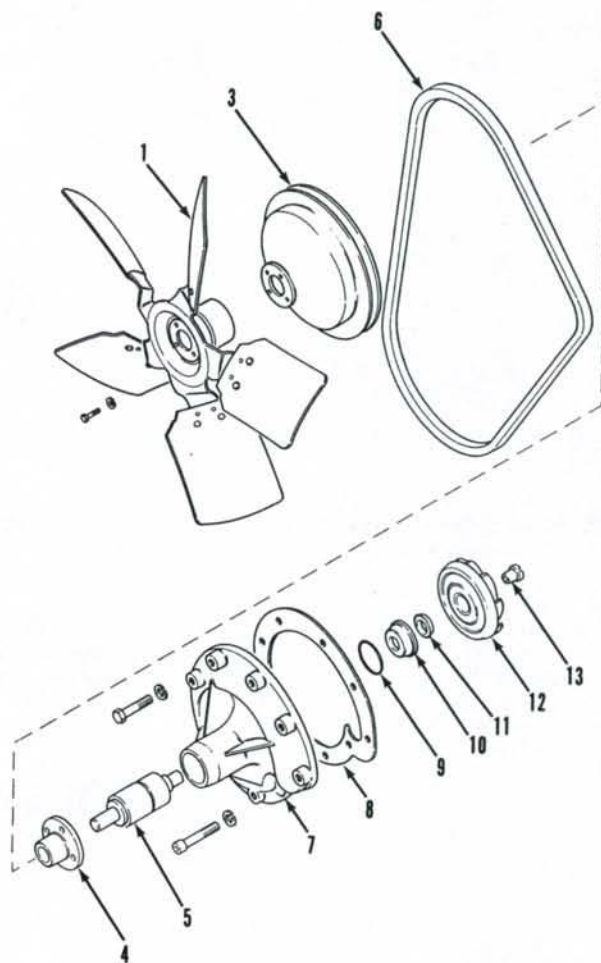
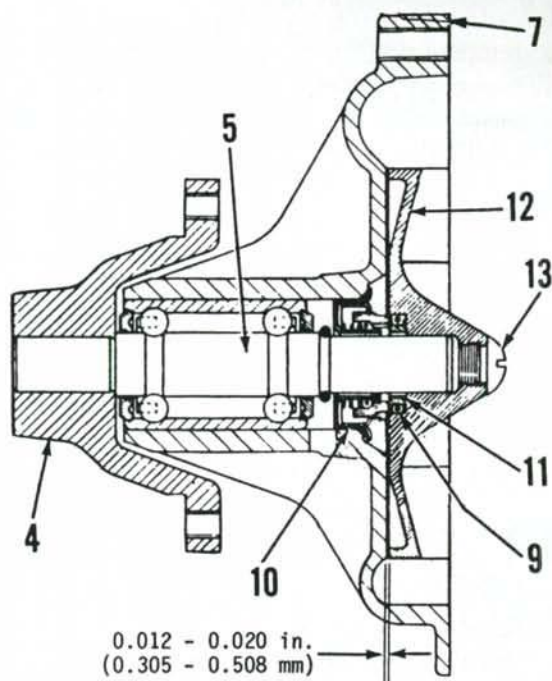

Fig. 61—Exploded view of typical water pump assembly. The five blade fan is standard. A six blade fan is used on models equipped with air conditioning.
Fig. 62—Sectional view of typical water pump, showing correct dimension for installation of impeller.
Disassemble the pump as follows: Remove plastic screw (13—Fig. 61), then using a 1/2 × 2 inch NC cap screw for a jack screw, force impeller (12) off rear end of shaft. Using two screwdrivers, pry seal assembly (10) from pump body. Support hub (4) and press out shaft. Press shaft and bearing assembly (5) out front of body. Make certain that body is supported as close to bearing as possible.
When reassembling, press shaft and bearing assembly into body using a piece of pipe so pressure is applied only to outer race of bearing. Bearing race should be flush with front end of body. Install new seal assembly (10). Press only on outer diameter of seal. Clean inside of hub (4) with degreasing solvent. Apply a light coat of Loctite to both surfaces. Support shaft assembly and press hub on shaft until hub is flush with end of shaft. Install face ring (11) and "O" ring (9) in impeller (12), then press impeller on shaft until there is a clearance of 0.012-0.020 inch (0.305-0.508 mm) between body and front of impeller. See Fig. 62. Install plastic screw (13—Fig. 61).